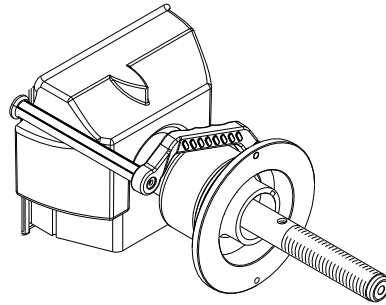

Figure 46
7. Gently pull the SAPE out and rest the arm of the SAPE gauge on the inner part of the bell housing as shown in (Figure 46). A tone will sound and the display will change to "**BAC**" "**H**" "**POS**".